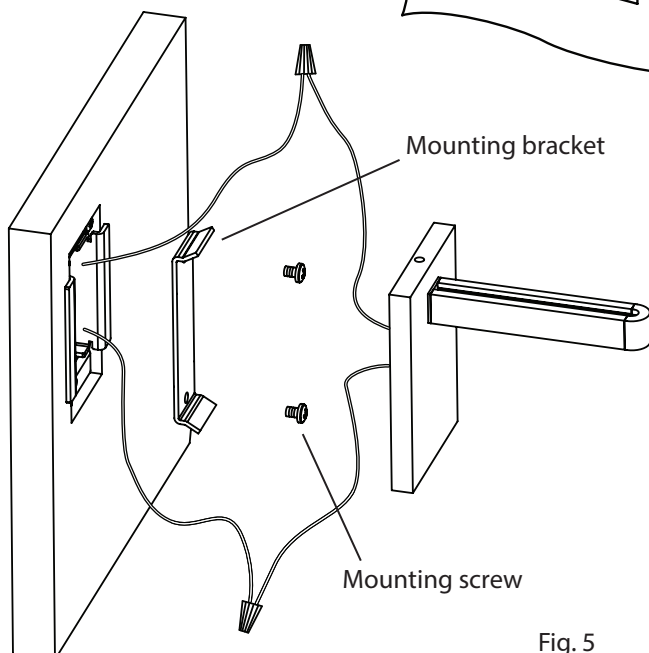

Fig. 5
15. Make appropriate electrical connections using wire nuts: Connect one of the black Power Feed wires to one of the Transformer output wires. Connect the other black Power Feed wire to the second Transformer output wire. Carefully place connections in the Minibox. (Fig. 5)
16. Attach **mounting bracket** to Minibox with two **mounting screws**. (Fig. 5)